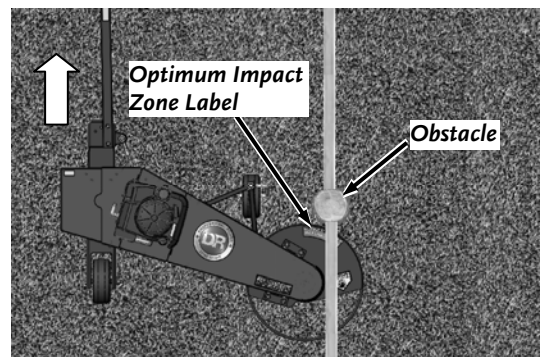

Figure 19
- Approach obstacles (fence posts, Trees, Large Rocks etc) so the impact zone will be within the area of the Optimum Impact Zone Label (**Figure 19**). This will ensure the best spring action and trimming coverage around the obstacle.